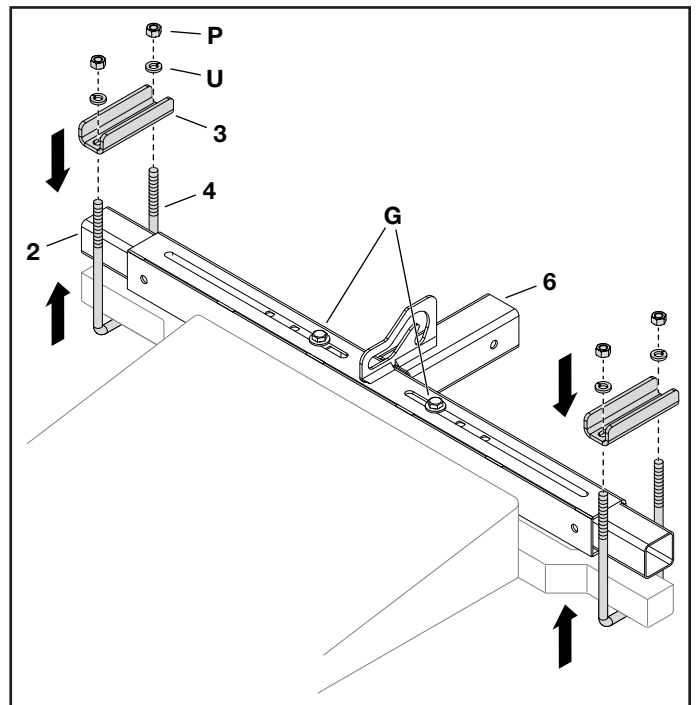

FIGURE 2
STEP 2: (SEE FIGURE 2)
- Attach the hitch mount assembly (6) to the tractor frame using two U-bolts (4) secured with two mounting brackets (3), four washers (U), and four hex nuts (P). Do not tighten.
- If the slider tube does not fully extend into both U-bolts (4), then loosen the appropriate hex bolt (G) and reposition the slider tube (2).